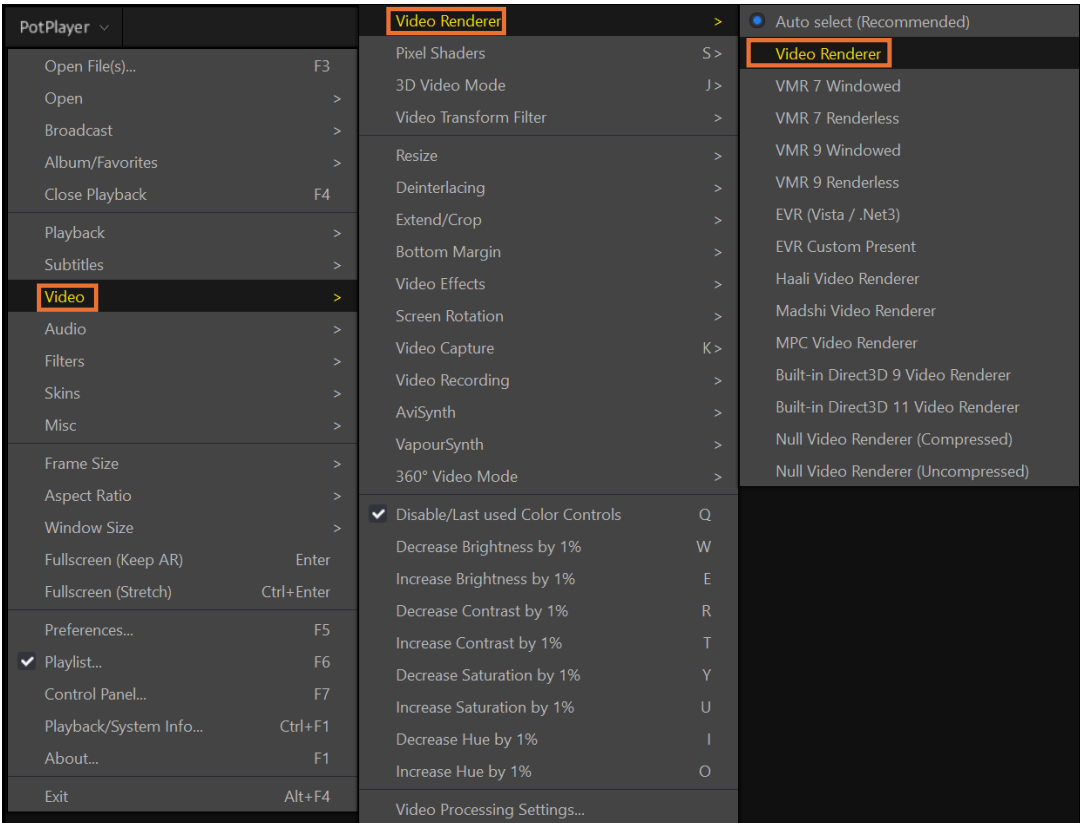

Figure 6.16. Video Renderer Option
5. To change the Video Renderer option in PotPlayer, right-click on the video and select **Video > Video Renderer > Built-in Direct3D 11 Video Renderer**, as shown in Figure 6.16.